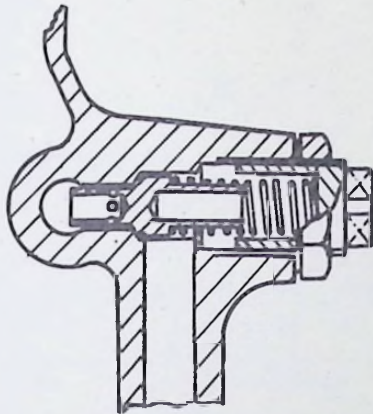

Fig. 21. Sectional View of Oil Pressure Release Valve.
- (1) The level of the oil in the sump may not be correct, or the grade of oil not as recommended. A list of recommended lubricants is given on *Page CZ8*. As to the oil level, this can be checked by means of the visible oil indicator, or dipstick. Replenish as necessary.
- (2) The oil pressure gauge may not be reading accurately. Check by fitting one known to be correct.
- (3) Dirt or foreign matter may be preventing the pressure release valve, situated in the main gallery (see Fig. 21, *Page BZ25*) from working correctly. To clean, release the locknut just sufficiently to allow the central plug to be unscrewed. Avoid altering the position on the nut unnecessarily, for the position of the nut on the plug is an indication of how far the plug must be screwed in for the pressure to be approximately correct. Completely detach the plug from the cylinder block, remove the spring, and plunger. Clean all parts including the